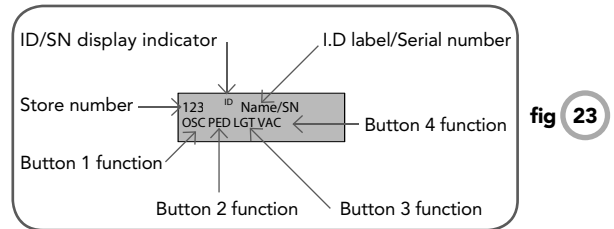

fig 23
The GDO-10v2 can store up to five hundred and eleven (511) transmitters in its memory. Each transmitter can be allocated an alpha-numeric ID label up to eleven (11) characters in length and each button can be assigned to one of several control functions. The settings for a transmitter are represented in **Fig. 23**. It shows the transmitter's store number, ID label or serial number and the functions assigned to each of its four buttons. To toggle between ID/SN display, press UP/DOWN with the cursor on the ID/SN indicator. The procedures below code, delete, replace, edit and copy transmitter records.